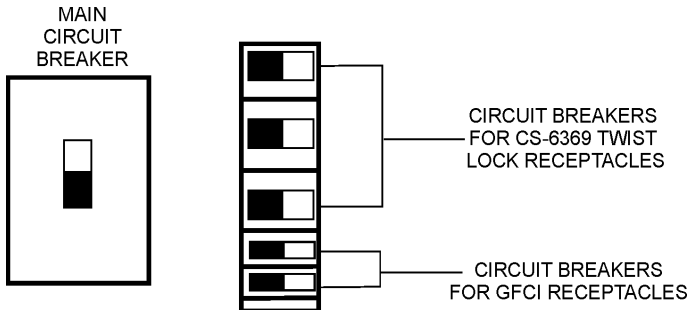

Figure 54. Main, Aux. and GFCI Circuit Breakers (OFF)
1. Place both the **MAIN**, **GFCI** and **LOAD** circuit breakers (Figure 54) to the "OFF position".